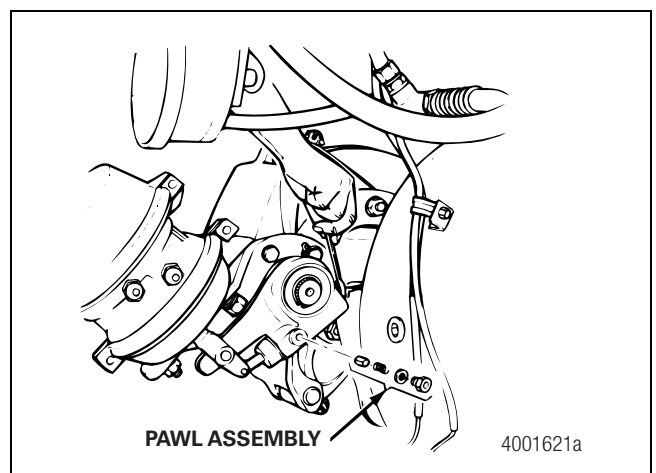

Figure 10.2
8. Remove or disengage the pawl assembly from the slack adjuster. Figure 10.2.